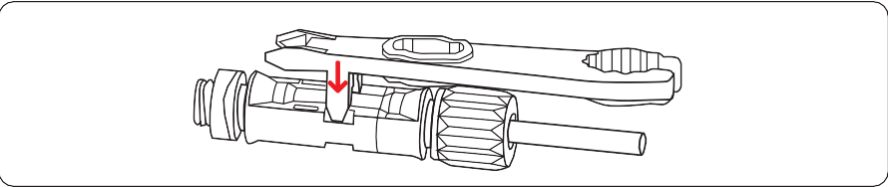

Figure 8.1 Removing DC input connector
**Step 1:** Disconnect all cables from the inverter, including communications cables, DC input power cables, AC output power cables, and PGND cables, as shown in Figure 8.1.